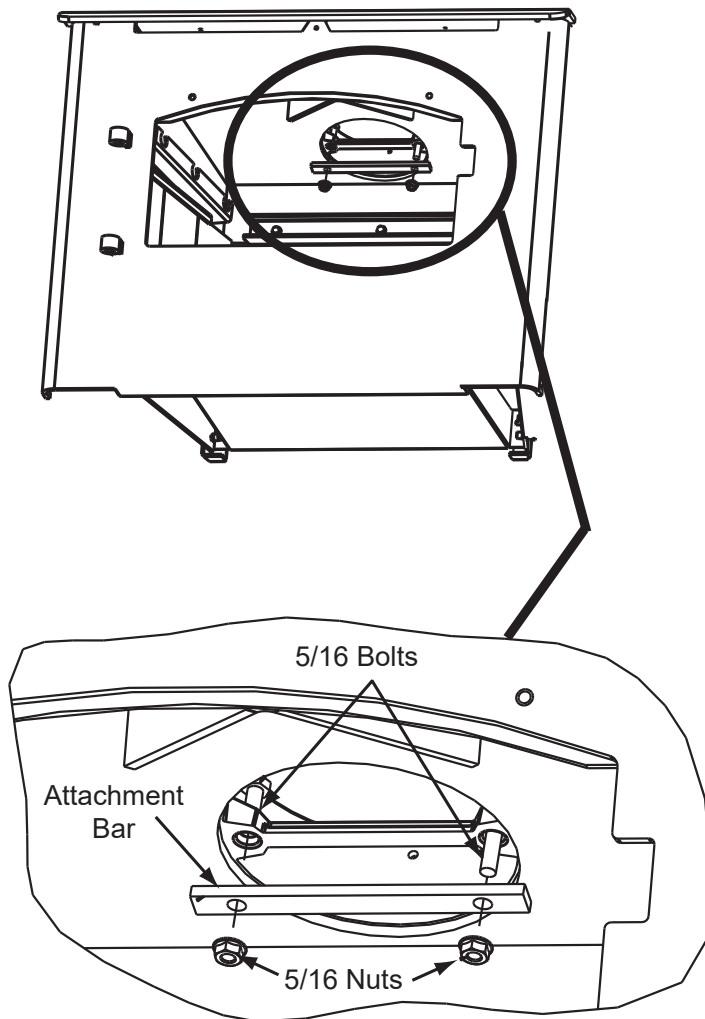

Figure 41.1
1. Once you have the appliance in place and secured, reach up through the flue opening and grab the attachment bar and pull down inside flue opening (**Figure 41.1**).